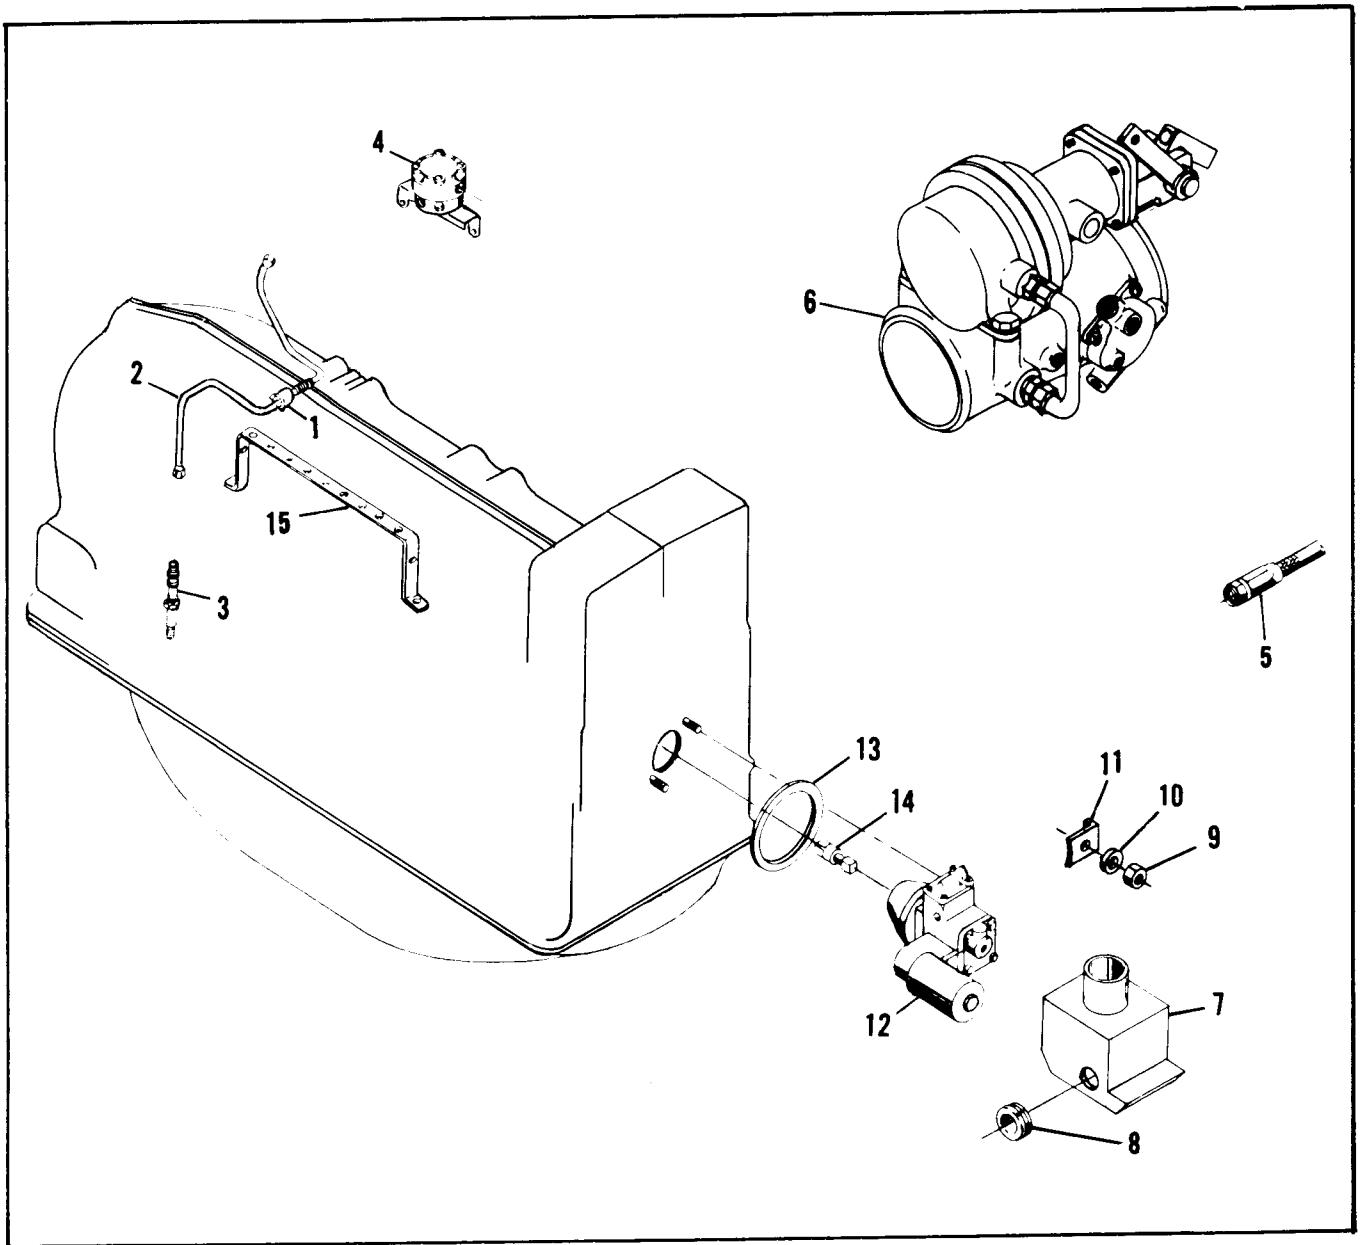
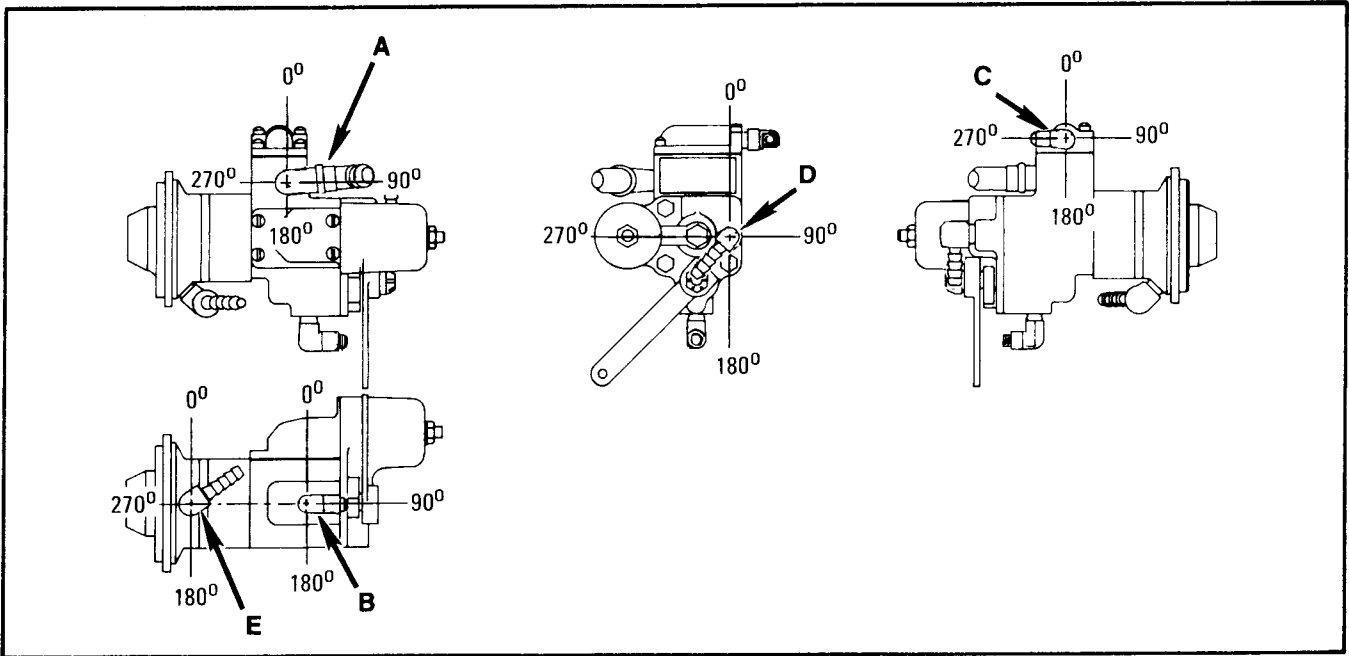
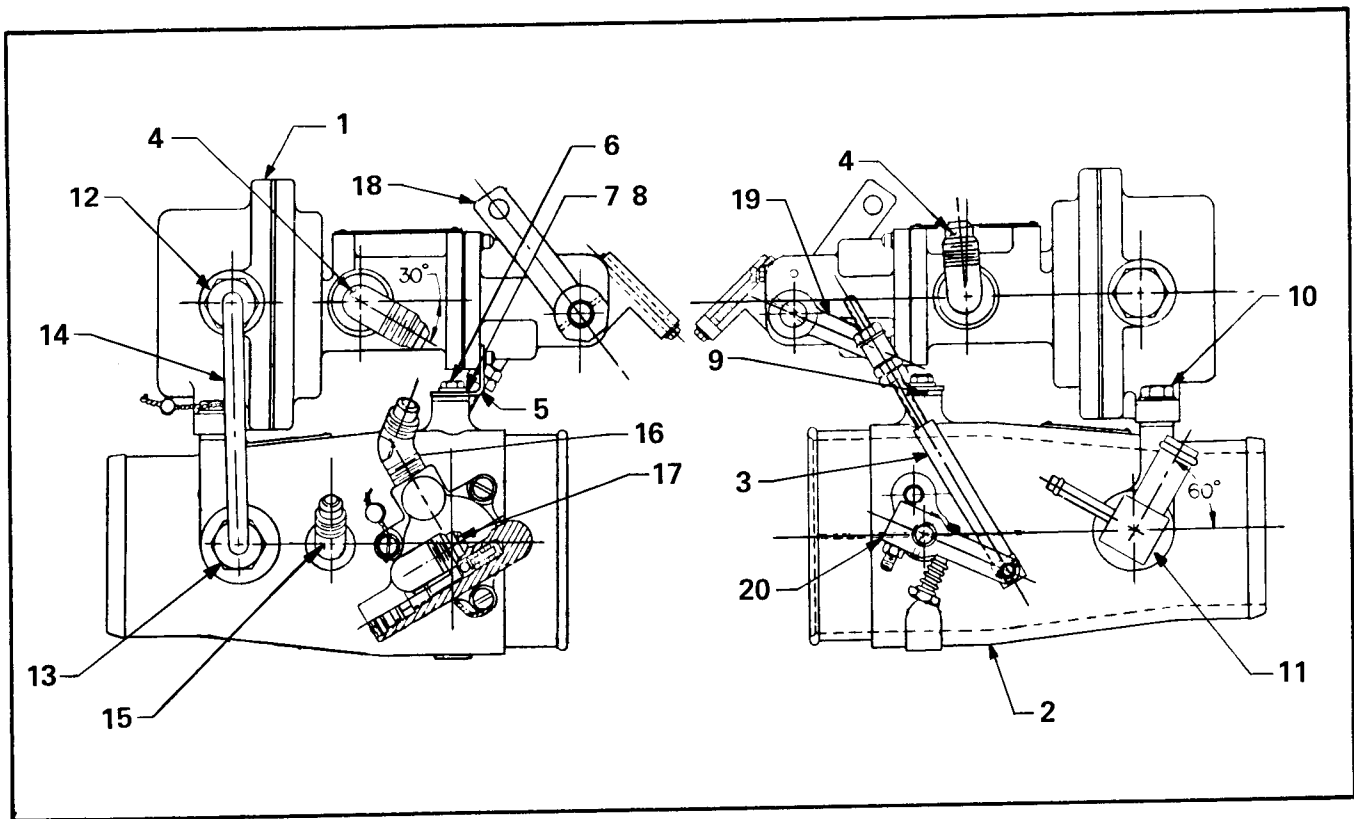

FIGURE 16-3 FUEL INJECTION SYSTEM
FIGURE 16-4. FUEL PUMP FITTING LOCATIONS
FIGURE 16-8. THROTTLE, CONTROLLER ASSEMBLY
16-10 FUEL INJECTION SYSTEM (See Figure 16-3)
A. Remove hose assembly (6), fuel pump to fuel metering and hose, fuel pump to air throttle body.
B. Remove attaching parts (10, 11, 12) and pull fuel pump (13) from crankcase. Separate shroud (8) from pump. Remove coupling (15) and gasket (14).
C. The air throttle assembly (7) was removed with the induction system.
D. Remove clamp (1) from bracket (16) and separate fuel discharge tube (2) from fuel manifold valve (4) and nozzle (3). Remove nozzles and fuel manifold valve.
E. (See Fig. 16-8) Remove tube assembly (14) and linkage assembly (3).
A. (See Fig. 16-8) Install fittings, if removed, in the attitude shown in figures 16-4, 16-5 and 16-8, being careful that no loose metal shavings get into the fuel stream.
B. Install bracket (5) on controller (1) and install controller on throttle body. Secure with attaching parts (6 thru 10).
C. Install adapter fittings (12, 13) and install tube assembly (14).
D. (See Fig. 16-3) Install nozzles (3). Install sleeves over nozzles and attach fuel discharge tubes (2). Secure tube to bracket (16) with clamp (1). Attach discharge tubes to fuel manifold valve (4).
E. Position shroud (8) on fuel pump (13). Lubricate coupling (15) and install in pump. Attach fuel pump to crankcase using new gasket (14) and secure with attaching parts (10, 11, 12).